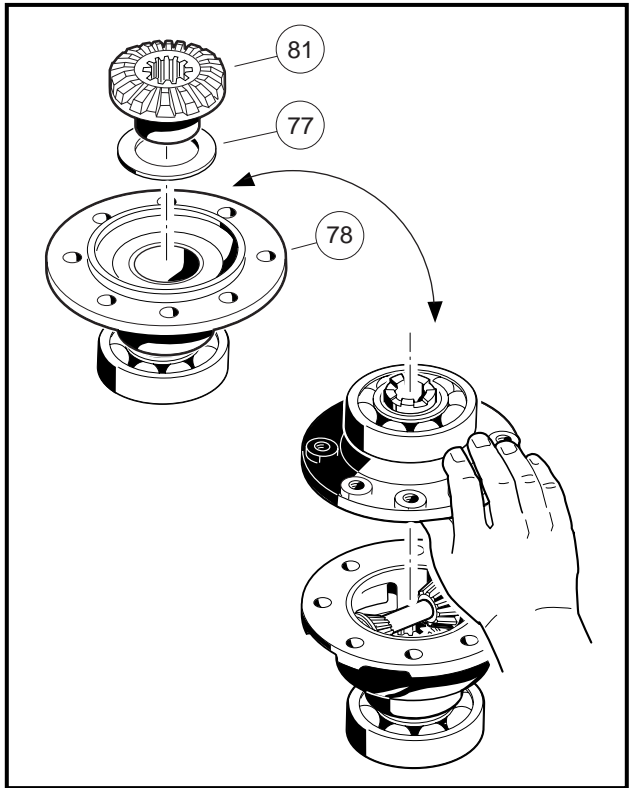

Figure 16-70 Carrier Case
5. Install the thrust plate (77) and differential gear (81) into the carrier case cover (78) (**Figure 16-48, Page 16-20**) as shown (**Figure 16-70, Page 16-30**). While holding the thrust plate and differential gear in place, position the carrier case cover on the carrier case (**Figure 16-70, Page 16-30**).